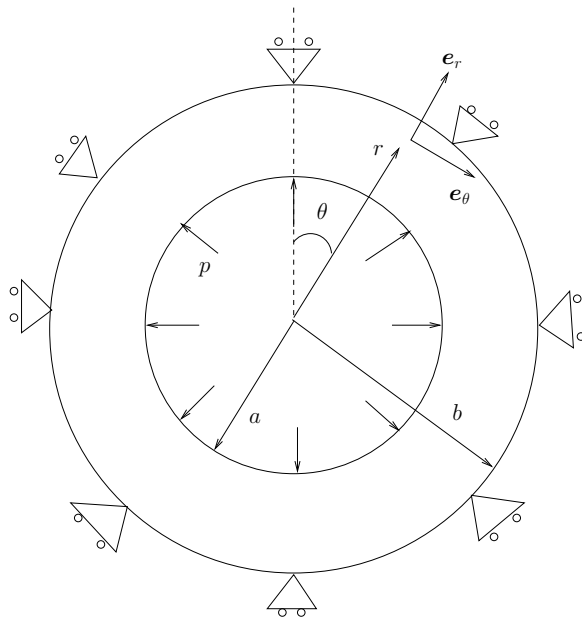

Figure 1: Problem 2.
2. Assume the body forces to be zero in this problem. A thick-walled hollow sphere (50) of inner radius  $a$  and outer radius  $b$  is subjected to a uniform pressure load  $p$  at its inner surface  $r = a$  as shown in Fig. 1. The outer surface  $r = b$  is in contact with a smooth rigid surface so that it cannot move radially outward. Our goal is to find the displacement and stress distribution in the sphere as a function of the spherical coordinates  $r$ - $\theta$ - $\phi$  where  $\theta \in [0, \pi]$  and  $\phi \in [0, 2\pi]$ .